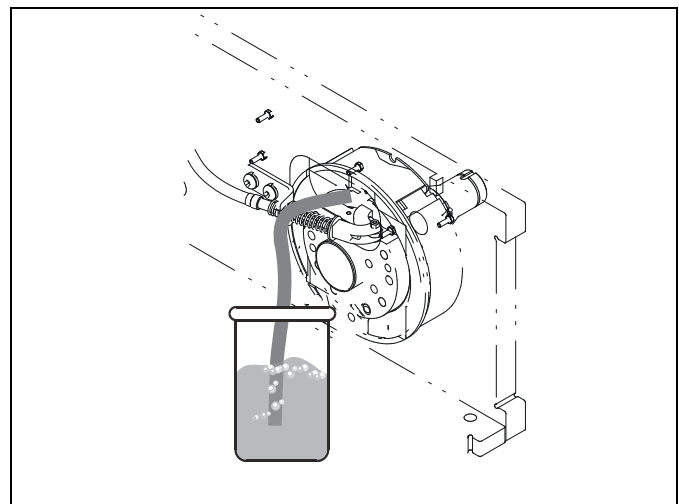

Figure 2-7 Bleeding Brakes
7. Fit a length of tubing over the bleed screw and immerse the other end in the container of new brake fluid. Check that the tubing fits tightly over the bleeder fitting. (See Figure 2-7)